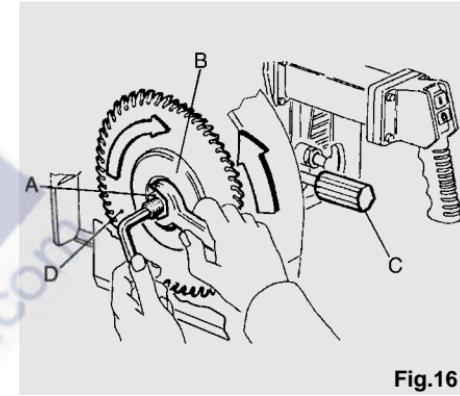

Fig.16
Open the blade cover guard, use the handle (C) to loosen the locking, move the lower guard to the lower end and stop it in this position. After locking the guard, there will be enough space for the blade clamping flange passage (B). To loosen the nut with left-hand thread (A) in Fig. 16, hold the output shaft introducing a socket head screw as shown in Fig. 16 and use an open key clockwise. Mind not to hurt yourself against the blade while carrying out this operation. To this purpose, we suggest you wear gloves. Pull out the external flange (B) so as to reach the blade's housing (D). Remove the blade (D) from the motor inclining and lifting it after crossing the output shaft. Repeat this
Mind that the direction of the blade's teeth is the same as shown in Fig. 16. Blades must have a central hole of Ø 30 mm (Ø 1") and max diameter of Ø 400 mm (Ø14"), Ø 450 mm (Ø 16") depending on the casing and motor (shaft in inches) fitted on the machine